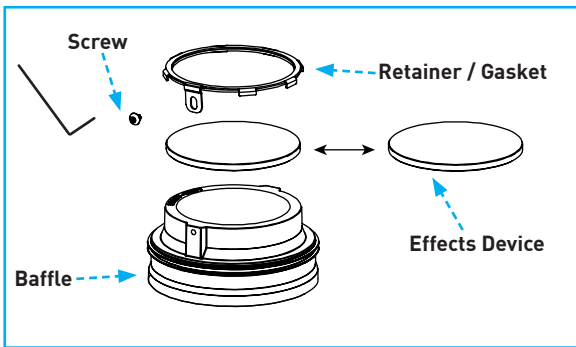

Fig.62
- Grasp baffle using soft gloves or with clean soft cloth and remove by pulling down or inserting small flat head screwdriver to wallwash baffles and carefully prying down as shown in *Fig.62*.
- To change lens / film, remove lens retainer and gasket by loosening and removing hex screw with the provided Allen wrench. Insert preferred lens / film in proper orientation, securing with lens retainer / gasket and replacing and tightening screws with *(Fig.62)*. Lens is not serviceable on wet rated baffle assemblies.